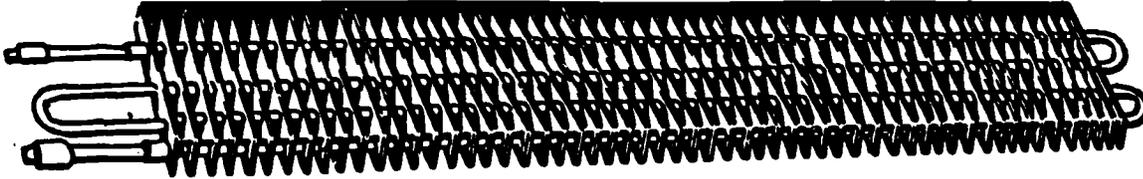

Fig 3-27. Finned evaporator.
**FINNED** evaporators are made of bare tubes covered with metal fins. These fins add surface area which aids in heat transfer. These evaporators are used in many applications. Formerly they were used only in air-conditioning and areas where the temperature did not go below 32° F. Today, with the aid of automatic defrost systems, these evaporators are used in applications where the temperatures goes down to 0° F, see figure 3-27.